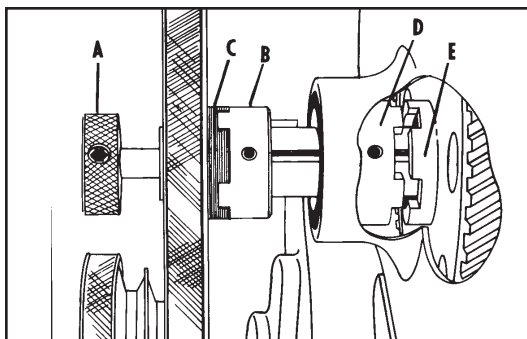

Fig. 30
When using the machine for wood cutting (3000 SFM), pull the shifter knob (A) Fig. 30 all the way out so that the lugs of the clutch (B) are engaged with the hub (C) of the drive pulley. This action will disengage the clutch (D) from the hub (E) of the gear that transmits power through the gear box. It may be necessary to rotate the pulley manually in order to line up the clutch lugs with the slots in the hub of the pulley. This action provides a direct drive from the motor pulley to the drive pulley, by-passing the gear box.